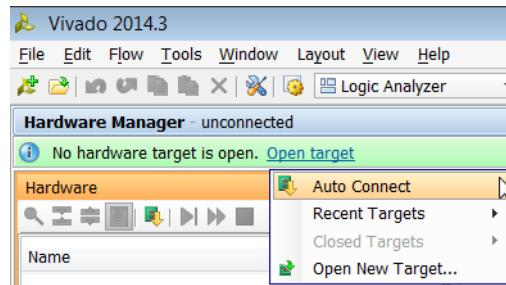

Figure 4-2: Using the User Assistance Bar to Open a Hardware Target
- Use the **Open Target ->Open recent target** or **Open Target -> Open New Target...** selections on the green user assistance banner across the top of the **Hardware Manager** window to open recent or new hardware targets, respectively (see Figure 4-2).